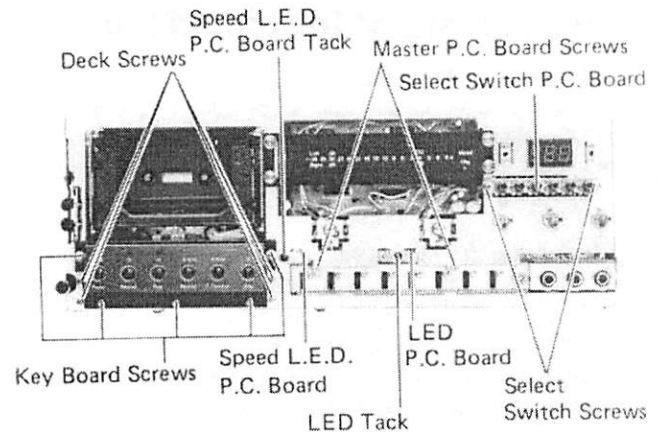
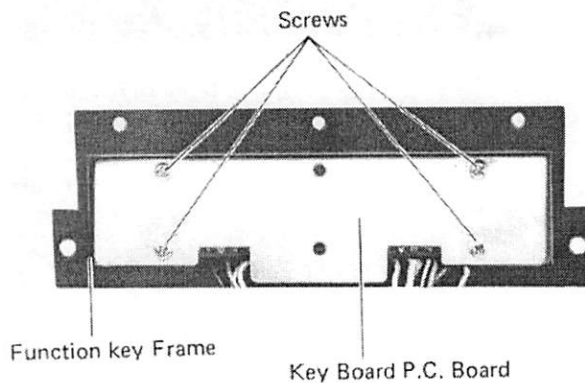

Figure 13
Figure 16
- (1) Remove two screws as shown in Figure 13.
- (2) Disconnect all wires from the P.C. Board.
- (1) Remove one tack as shown in Figure 13.
- (1) Remove five screws as shown in Figure 13.
- (2) Detach the function panel and the function key frame with the key Board P.C. Board to this side.
- (3) Turn the function key frame, remove four screws from the P.C. Board as shown in Figure 16.
- (4) Disconnect all wires from the P.C. Board.
- (4) Remove the bottom cover.
- (5) Remove two screws as shown in Figure 13.
- (2) Remove four screws as shown in Figure 13.
- (3) The cassette deck with the control P.C. Board can be completely removed from the chassis.